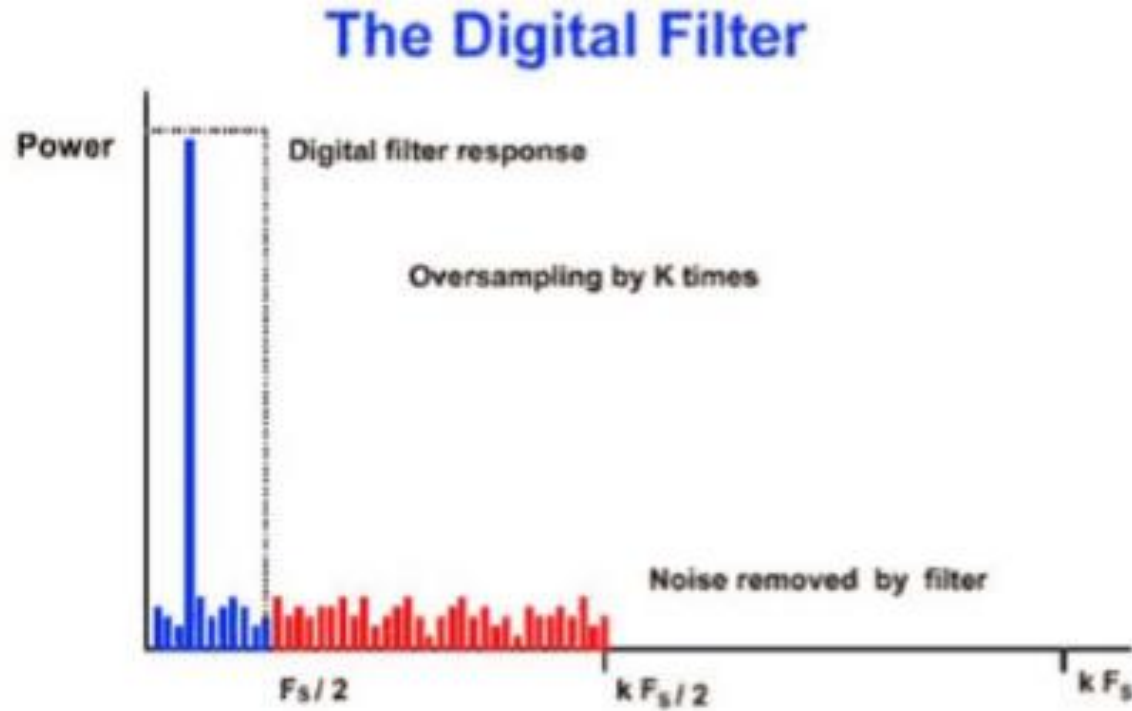

Fig. 15 FFT diagram of effect of Digital Filter on Noise Bandwidth
- Sigma-delta converters exploit this effect by following the 1-bit ADC with a digital filter (Fig.15).